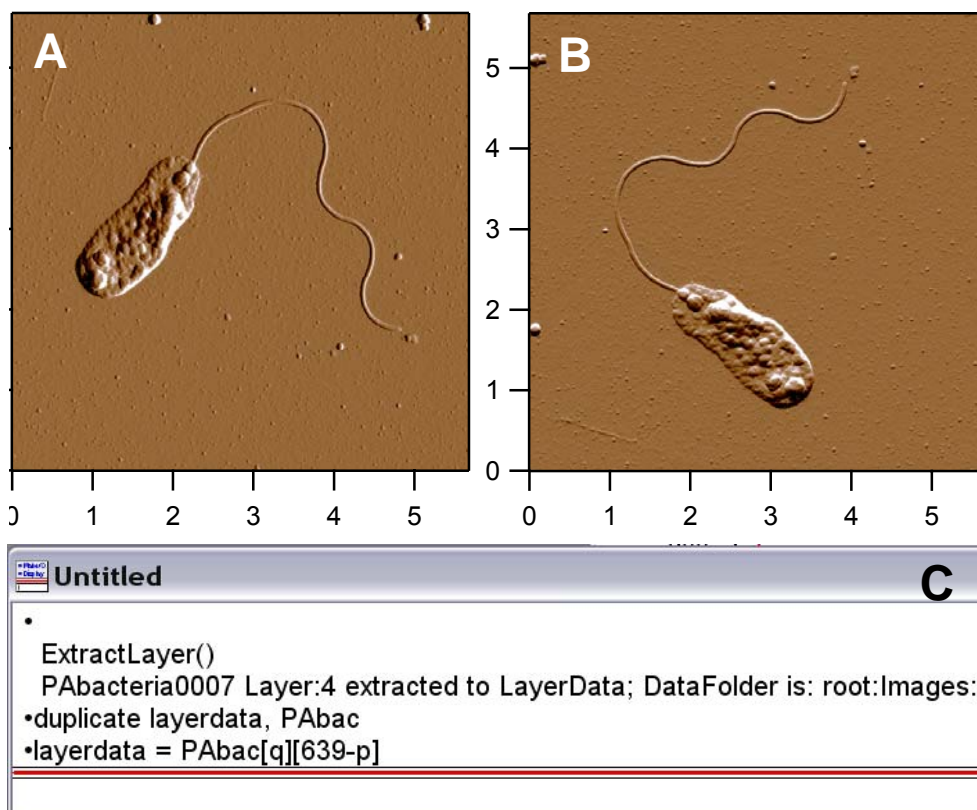

Figure 12.4.2: Rotating a stored image; A) Extract desired layer to rotate; B) With a couple of command line executions, the image is rotated.
- In the example shown in Figure 12.4.2, the filename was PA bac, and it was a 640 x 640 image resolution.